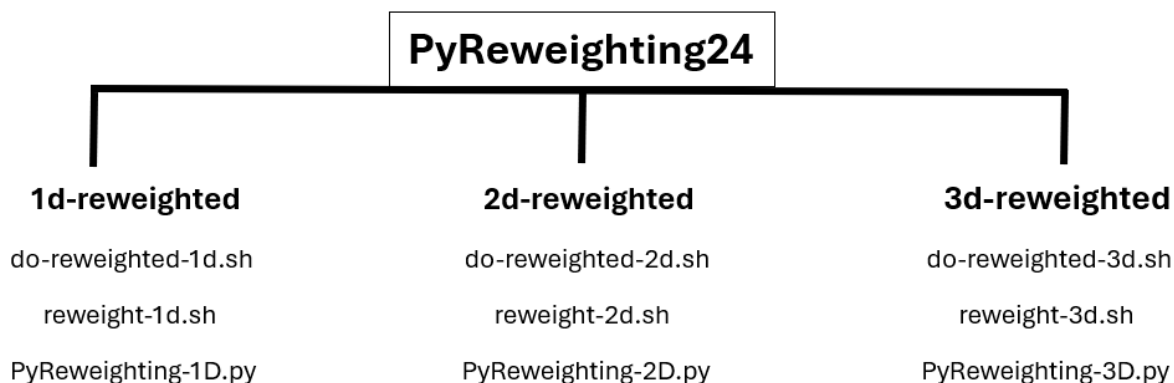

Figure 3. Directory structure of PyReweighting24 files.
- PyReweighting scripts can be downloaded at PyReweighting24.tar.bz2 (12KB) or copied from the following folder on the UNC cloud server: /shared/data/PyReweighting24. As shown in (Figure 3), there are three folders: 1d-reweighted, 2d-reweighted, and 3d-reweighted, each corresponding to the calculation of 1D, and 2D. Each folder includes two bash scripts (*do-reweighted-[1-2]d.sh* and *reweight-[1-2]d.sh*), and a Python script (*PyReweighting-[1-2]D.py*) for performing the respective calculations.